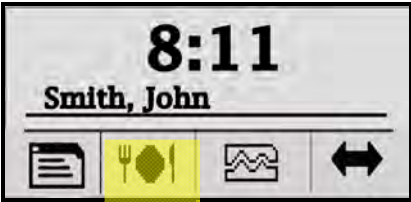

Figure 30: Enter Meal Punch
Step 2. The user can swipe his/her badge magnetic card or use the keypad to enter the ID number. Press **enter**  to accept the ID number when using the keypad. If the ID is valid for that terminal, the screen will change to display name [if a name exists] and allow meal punch (see **Figure 30**).